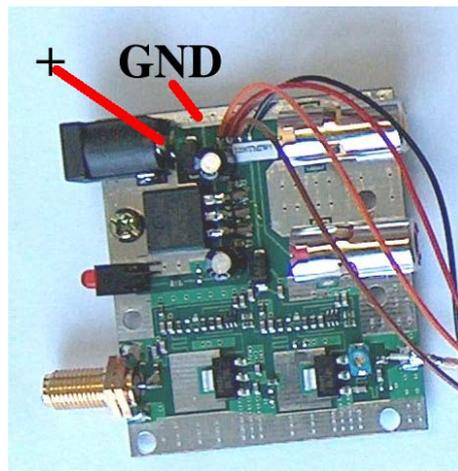

Figure 23: DFM1200TSIM1W Board.
2. Solder the **BLACK** wire from the LCD Board labeled **GND** to the **GND** of the TSIM1W Board, indicated in Figure 23.
3. Solder the **RED** wire from the LCD Board labeled **POWER SUPPLY** Transmitter to the + indicated in Figure 23.